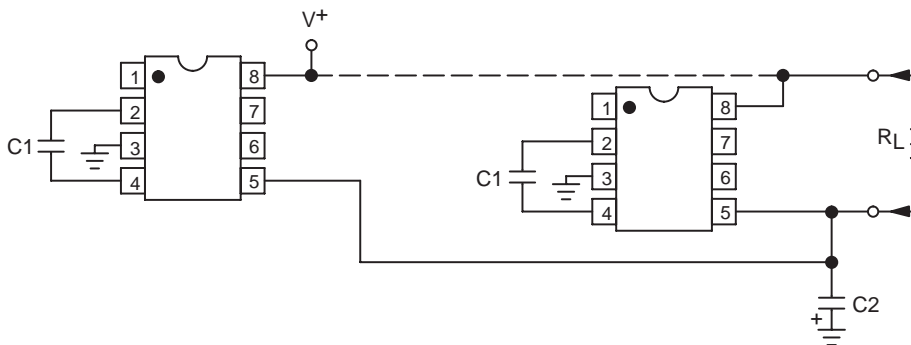
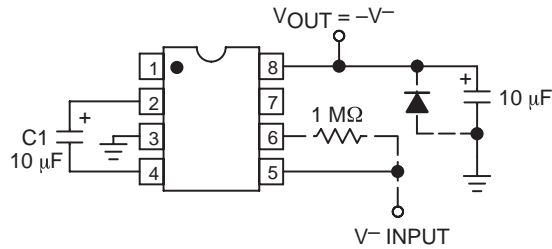
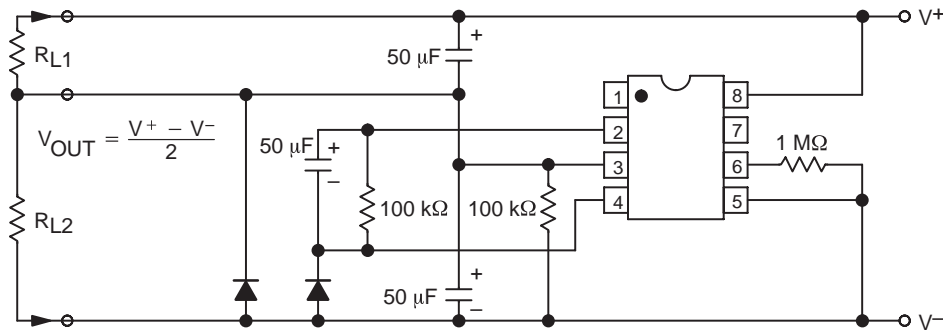
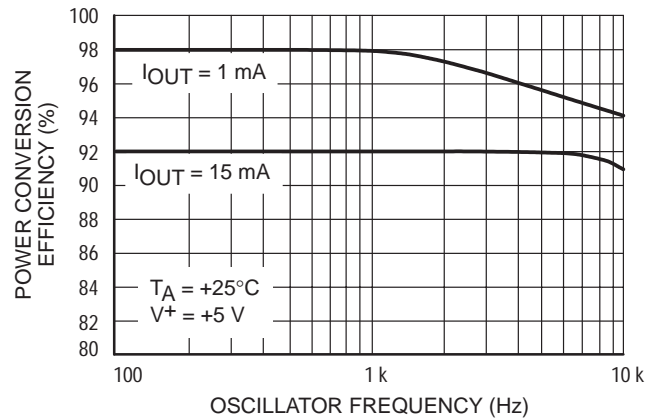

**Figure 3. Simple Negative Converter**
**Figure 9. Combined Negative Converter and Positive Multiplier**
**Figure 10. Positive Voltage Conversion**
**Figure 11. Splitting a Supply in Half**
Figure 3 shows typical connections to provide a negative supply where a positive supply is available. A similar scheme may be employed for supply voltages anywhere in the operating range of +1.5V to +10V, keeping in mind that pin 6 (LV) is tied to the supply negative (GND) only for supply voltages below 3.5V.
The output characteristics of the circuit in Figure 3 are those of a nearly ideal voltage source in series with 70Ω. Thus, for a load current of -10mA and a supply voltage of +5V, the output voltage would be -4.3V.
Figure 9 combines the functions shown in Figures 3 and 8 to provide negative voltage conversion and positive voltage multiplication simultaneously. This approach would be, for example, suitable for generating  $+9V$  and  $-5V$  from an existing  $+5V$  supply. In this instance, capacitors  $C_1$  and  $C_3$  perform the pump and reservoir functions, respectively, for the generation of the negative voltage, while capacitors  $C_2$  and  $C_4$  are pump and reservoir, respectively, for the multiplied positive voltage. There is a penalty in this configuration which combines both functions, however, in that the source impedances of the generated supplies will be somewhat higher due to the finite impedance of the common charge pump driver at pin 2 of the device.
Since the switches that allow the charge pumping operation are bidirectional, the charge transfer can be performed backwards as easily as forwards. Figure 10 shows a ICL7660 transforming  $-5V$  to  $+5V$  (or  $+5V$  to  $+10V$ , etc.). The only problem here is that the internal clock and
switch-drive section will not operate until some positive voltage has been generated. An initial inefficient pump, as shown in Figure 9, could be used to start this circuit up, after which it will bypass the other ( $D_1$  and  $D_2$  in Figure 9 would never turn on), or else the diode and resistor shown dotted in Figure 10 can be used to "force" the internal regulator on.
The same bidirectional characteristics used in Figure 10 can also be used to split a higher supply in half, as shown in Figure 11. The combined load will be evenly shared between the two sides. Once again, a high value resistor to the LV pin ensures start-up. Because the switches share the load in